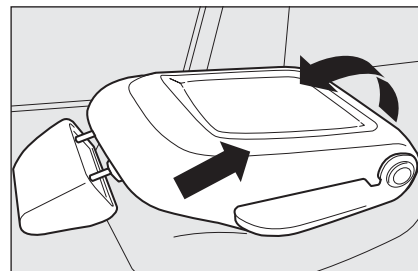

fig. 48
- arrange the passenger's seat in table position **fig. 48** (see "Arranging the seat in table position" paragraph in this chapter);